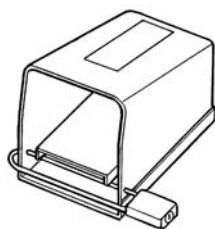

Figure 1 – Locked Foot Switch
- **Lock foot switch when machine is not in use (Figure 1).** Avoids accidental starting.